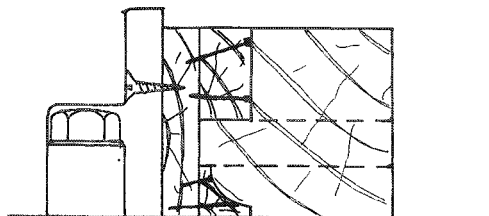

Fig. 4.70 Typical premoulded backing piece for a single scribe.
6. Pin the section on to the plain backing piece along with any other required pieces (Fig. 4.70).